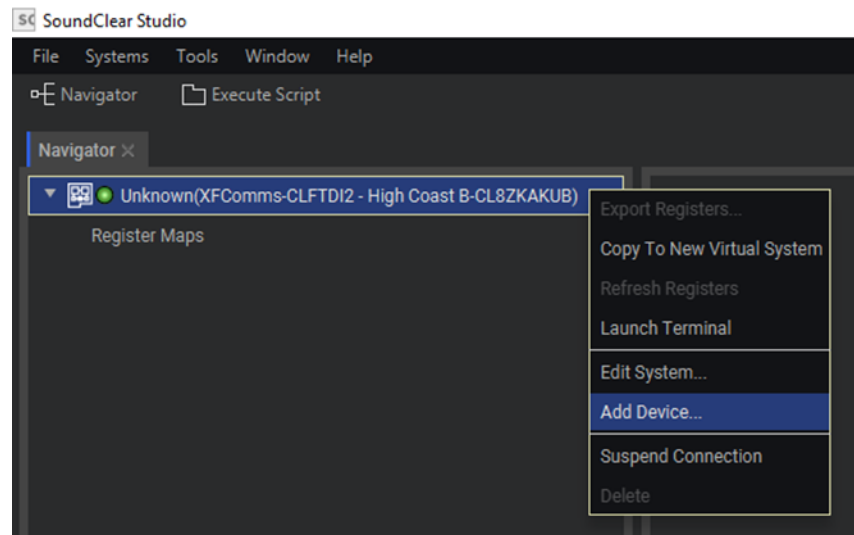

Figure 29. SoundClear Studio - Adding an Existing System
1. In the **Navigator** tab, right click on the unknown system and select **Add Device...**, see Figure 29.